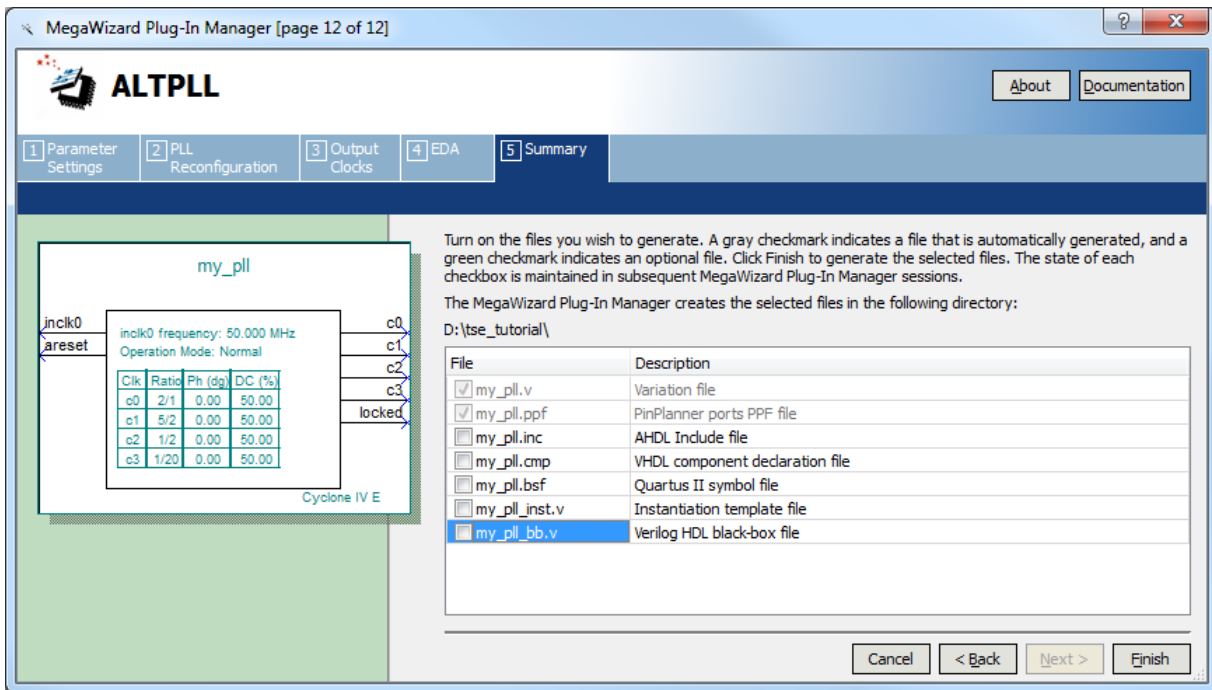

Figure 16. Settings for Summary tab.
8. Under the **Summary** tab, uncheck **my_pll_bb.v** as shown in Figure 16, and then click **Finish** to generate the files.